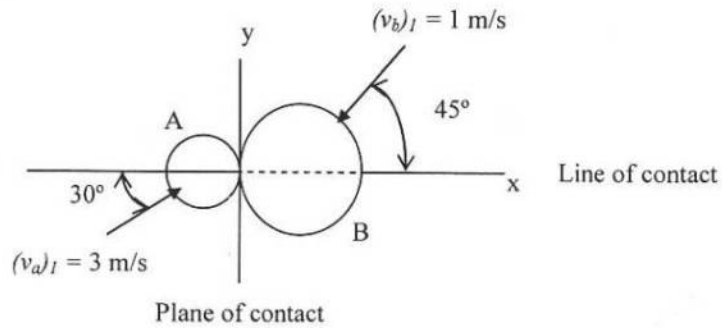

Figure 8
14) Figure 8 shows that the magnitude and direction of velocities of two frictionless balls A and B, having mass of 1 kg and 2 kg respectively, before they strike each other. Assuming $e = 0.75$, determine the x and y components of the final velocity of each ball just after collision.